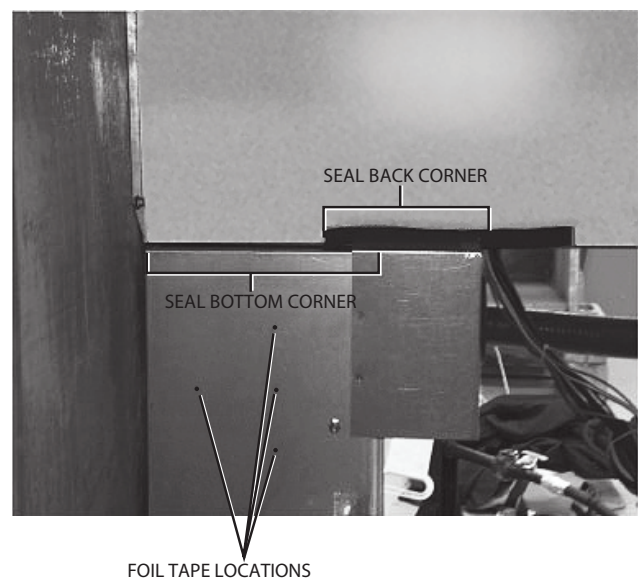

Fig. 7 — Seal Strip and Foil Tape Locations
6. Add seal strip to the rear bottom corner of the control panel as shown in Fig. 7. Foil tape open screw holes on the back of the single point box as shown in Fig. 7. Different single point boxes will have different screw holes open.